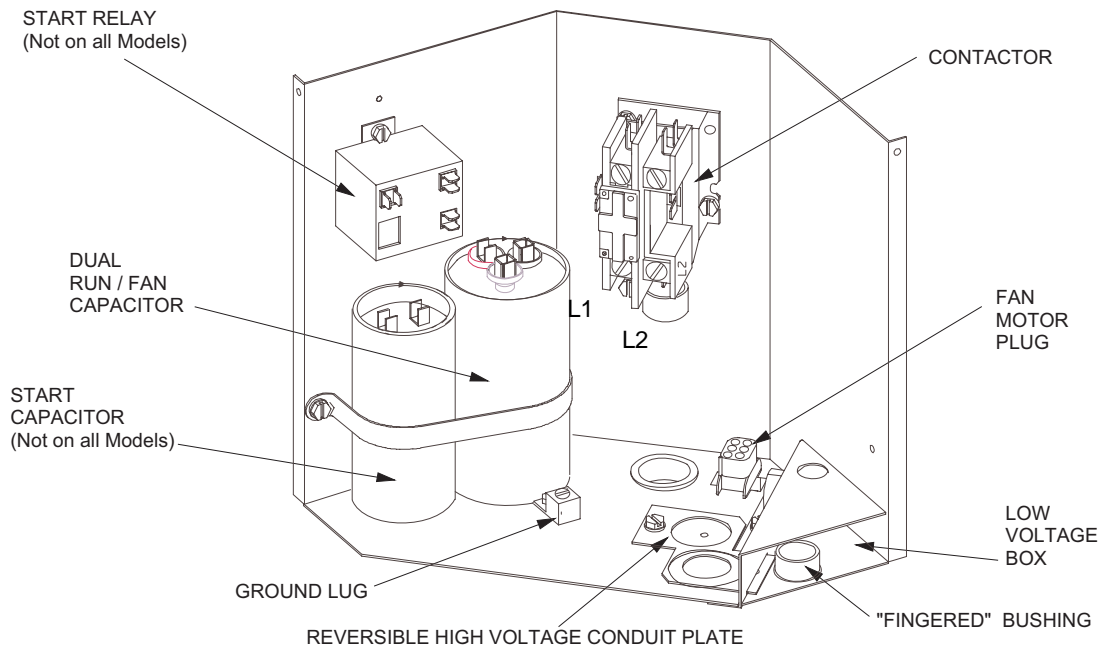

FIGURE 3 - TYPICAL CONDENSING UNIT CONTROL BOX (Start Components Shown)
- installed for 1/2" conduit connections. For 3/4" conduit, remove the screw holding the plate in place and reverse the location of the holes. For 1" conduit, remove the conduit plate and discard. Re - install screw to maintain the integrity of the unit structure, regardless of the conduit being used. See Figures 3 and 4.
4. Power connection to the unit is facilitated by screw terminals, marked L1 and L2 on the outdoor unit contactor. See Figures 3 and 4.
1. Route the low voltage cable through the fingered bushing in the low voltage junction box. See Figure 3 and 4.